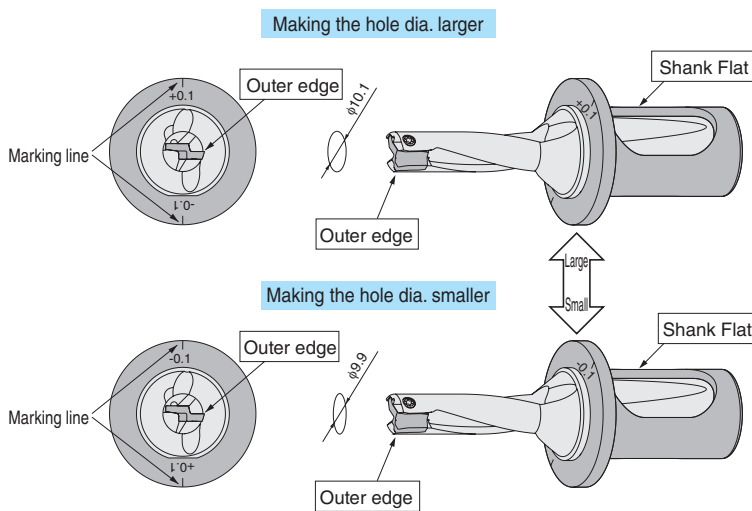

Fig.1 Diameter Adjustment Method (e.g.) $\phi 10$ Drill
- Set the outer edge horizontally with 90° to making line on the sleeve. (Fig.1)
To adjust to smaller diameter, align the -0.1 mark on the sleeve with the flat on the drill shank. (Fig.1)